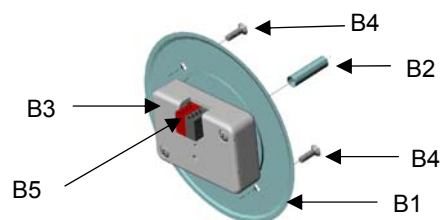

Figure 2: Mounting the UP 255/11
Mounting and dismantling the UP 255/11: (see figure 2)
- The flush mounting brightness controller UP 255/11 is mounted into sockets by means of the screw fixings (without claws) supplied (see figure 2).